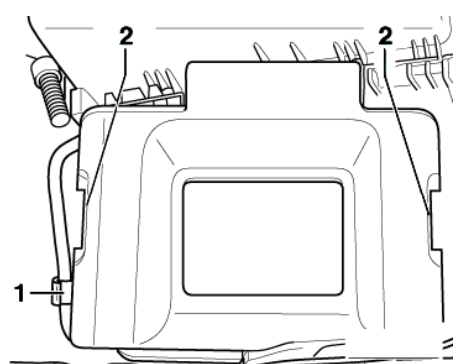

Fig. 10 Battery top cover removal
4. Unclip battery positive cable from retainer (1), **Fig. 10**.
5. Press locking lugs together (2), and remove battery cover from battery, **Fig. 10**.